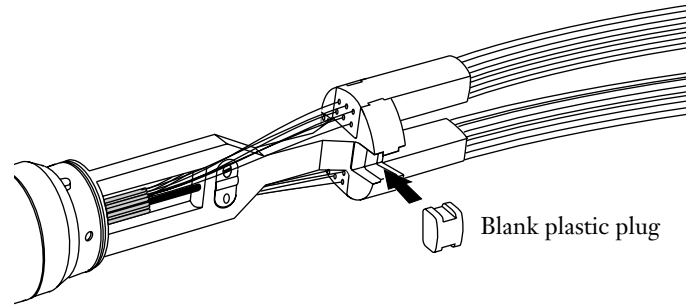

Figure 18
- Insert blank plastic plugs into any fan-out body slots not occupied by fibers (Figure 18).